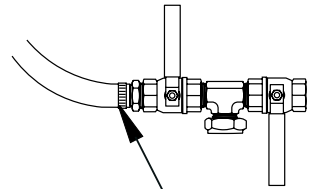

Fig. 26
8. Using a screw or nut driver, loosen the hose clamp (Fig. 26). Carefully remove the hose and lower it, allowing residual water to drain.